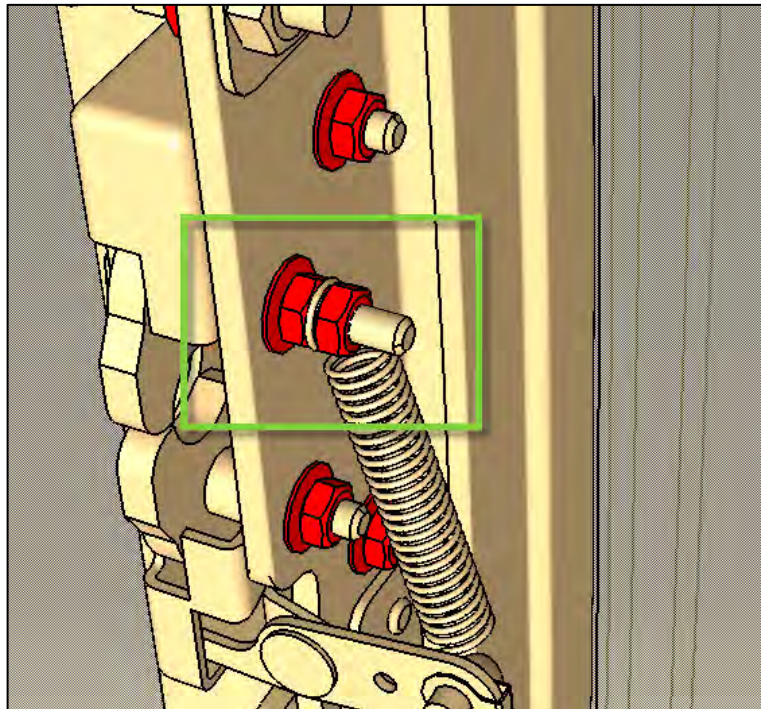

Figure 37
47. At lever spring anchor location, inspect torque seal. (Figure 36, Figure 37)
50. At the remaining three locations inspect torque seal. (Figure 37)